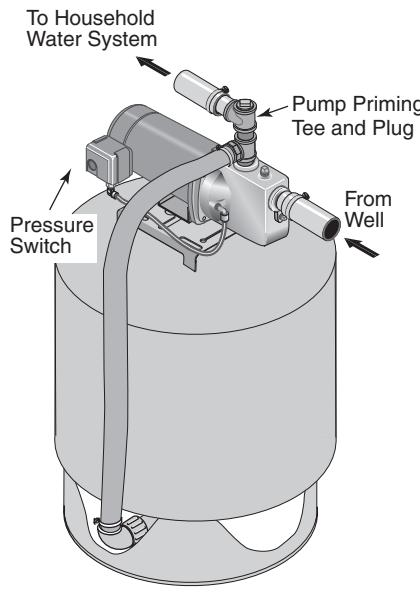

Figure 4: Pre-charged Tank Connections
## PRE-CHARGE TANK CONNECTION (FIGURE 4)
- Step 1. Install two tees in the pump discharge port (see Figure 4). The pipe size must be at least as large as the discharge port.